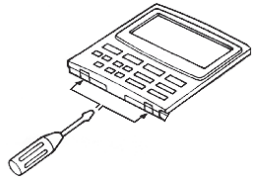

Fig. 3-116
- (1) Remove the cover of the optional wired remote controller. (Fig. 3-116)